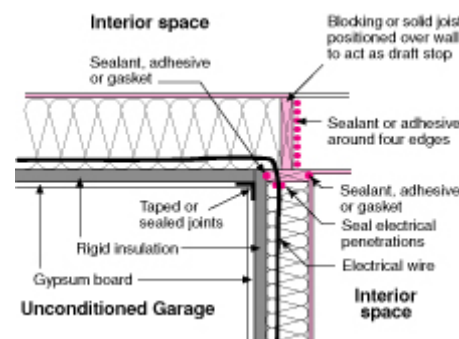

Figure 1
- **Attached garages** – The building enclosure surfaces shared between conditioned space and an unconditioned garage must have a continuous air barrier. See *Figure 1* and Air Sealing Details for details in terms of using sealants and rigid insulation to create a continuous air barrier between the attached garage and living space.